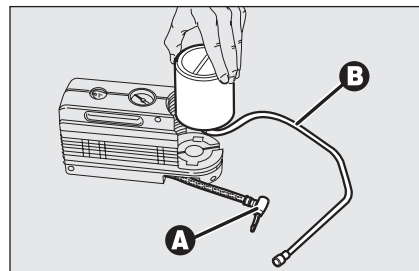

fig. 20
- disconnect connection **A-fig. 20** and hose **B**;